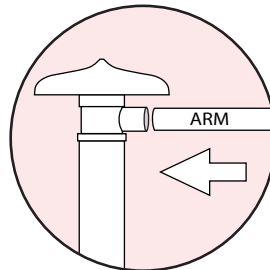
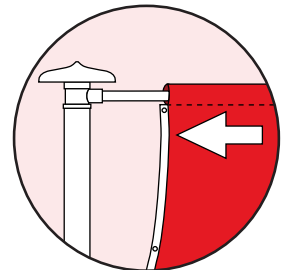

Fig 5a.
Fig 5b.
5. Push rotating arm into joint, ensure button clips into place (see Fig 5a), slide top sleeve on flag over the arm. (see Fig 5b)